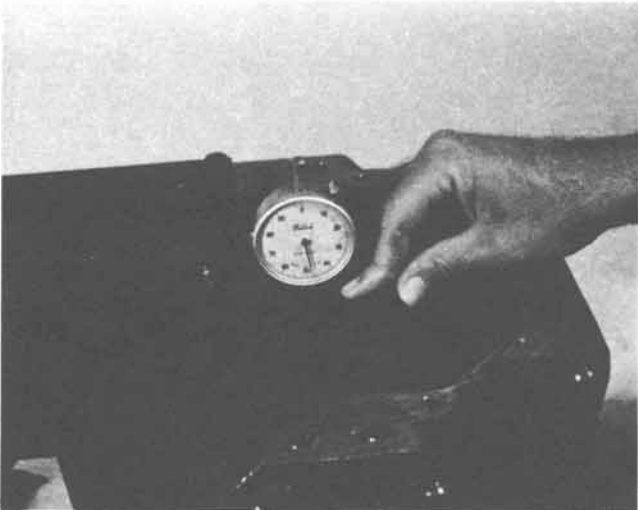

Figure 40
Measure the selected shim for Method B as determined in Figure 40 and install it on the pinion. Assemble the inner pinion bearing cone on the pinion. Place the bearing installer over pinion shaft as shown. Drive the bearing on the shaft until it is completely seated.
Place the arbor discs and arbor into the cross bore of the carrier. Place the pinion height block on the button end of the pinion. Set dial indicator of scooter gage at zero (0). Slide the scooter gage towards the arbor. As discussed in Figure 40, the indicator will show the greatest clockwise reading when it is at the top center of arbor. This reading indicates the position of the pinion.